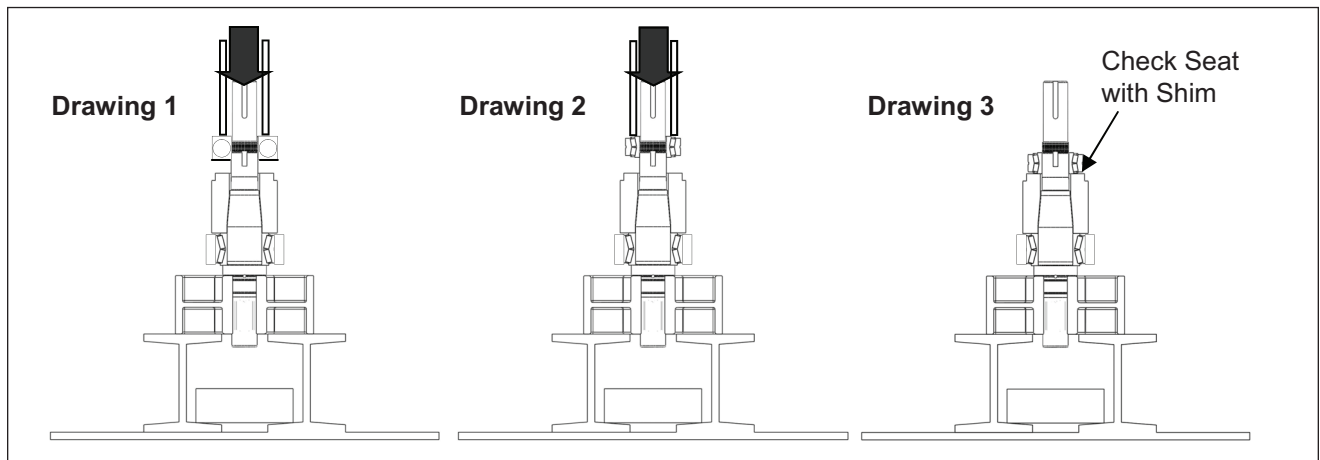

Figure 50. Pressing Rear Bearing onto Shaft
- For pump models with tapered roller bearings, apply a light coat of lubricant on the shaft. Open the new rear bearing assembly and do not interchange any parts. Place the rear bearing over the shaft above the bearing spacer (*Figure 50*, *Drawing 2*). Reference *Table 5* for the required force (in tons) needed to press the bearing onto the shaft. Using a sleeve that rests on the inner cone of the bearing and rides over the shaft, press the bearing on until it seats against the spacer.
Make sure the bearing is rested on the bearing spacer using a shim (*Figure 50*, *Drawing 3*).